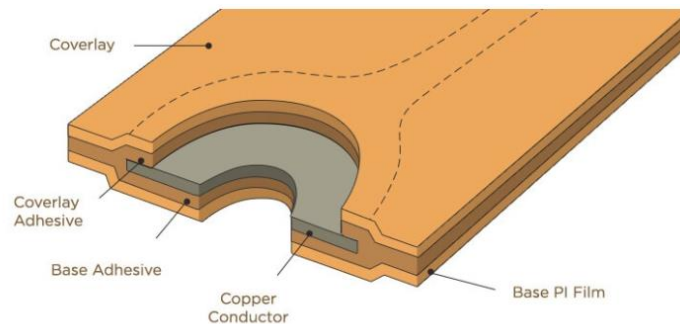

Figure 1 : Single-Layer, Flexible PCB Construction.
Typically for flexible PCBs, adhesives bond copper foil to polyimide (PI) or polyester (PET) films which is more bendy than traditional epoxy resin. The use of PI as a core-substrate material is preferred as its very heat resistant which makes it suitable for multiple reflow cycles and stable to expansion and contraction due to temperature fluctuations. The flexed PCB construction concludes with an outer layer, e.g. a PET coverlay, which insulates the outer-surface conductors, provides mechanical protection and endurance, shielding from corrosion and damage, in the same way solder mask does on a rigid board. As a flexible circuit can endure specific mechanical stresses, its conductors also have unique requirements for elasticity and toughness compared to traditional laminated copper foil. An example of a typical, single-layer flex circuit cutaway is illustrated in Figure 1.